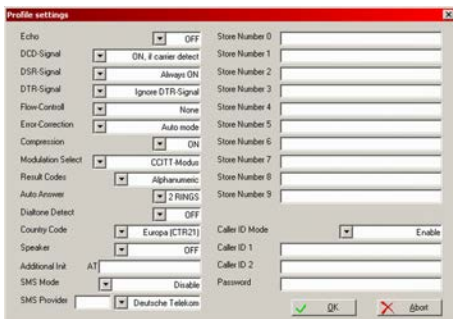

Fig. 207: Profile settings
4. Configure the settings shown in ( Fig. 207) for the modem to accept an incoming call for remote configuration.